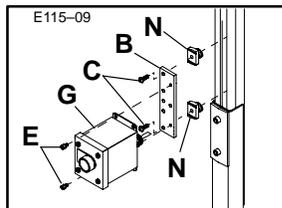

Figure 9: Jog Horizontal Mounting to Steel Stand Leg
- a. For a Steel Leg channel, select the desired location and position and install two (2) M6 Spring Nuts (N) into the Leg slot (Figure 9).
- Refer to Figure 9 and disassemble and re-attach Push-button Box assembly to the Mounting Plate and Mounting Brackets in the manner shown.
- Then, attach assembly to the M6 Spring Nuts, using the M6 x 16 mm Button Head Cap Screws (Figure 9). Tighten Screws with 4 mm Hex Key Wrench provided.